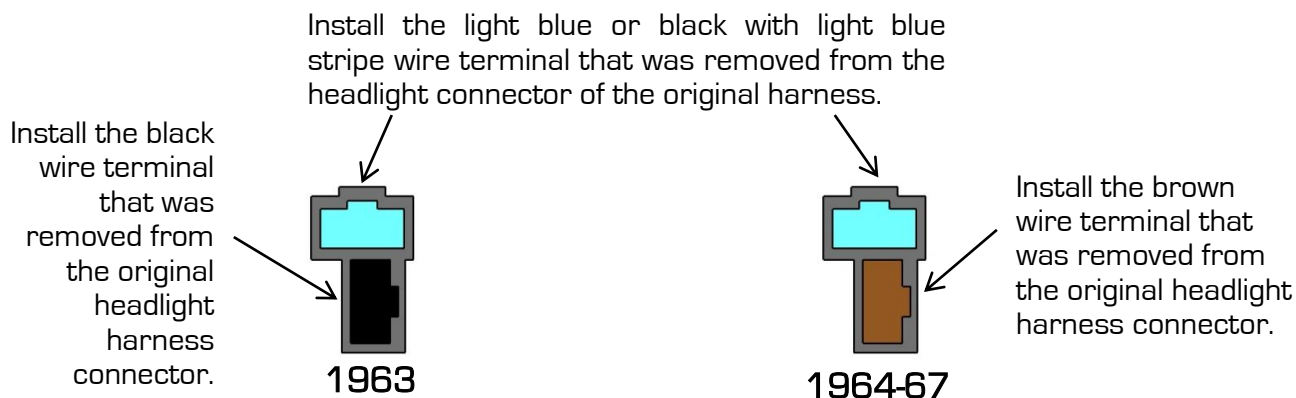

Figure 12 - End View (Harness Side)
18. Install the wire terminals which were just removed from the original headlight harness connector into the included black two terminal female Packard connector (Item 8) cavities as shown in Figure 12. **NOTE:** The female Packard connector (Item 8) is shipped installed in the male Packard connector on the wiring harness (Item 4). Plug this connector into the white two-terminal connector on the new harness. Make sure that the wire colors correspond with each other (light blue or black with light blue stripe to light blue, brown or black to brown).